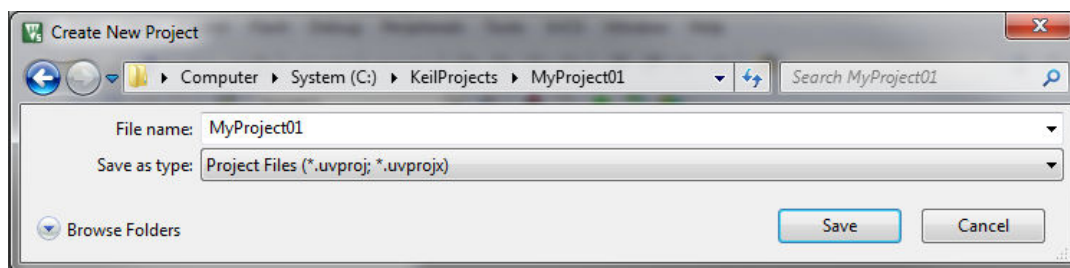

Figure 1-18. Create New Project dialog
3. Navigate to the folder where you want to create the project, for example C:\KeilProjects\MyProject01. Type the name of the project, for example MyProject01. Click Save. See Figure 1-18.